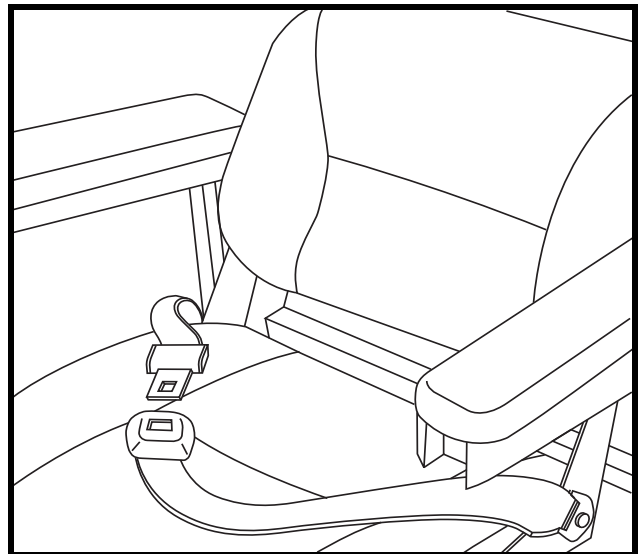

Figure 20. Positioning Belt
1. Insert the metal tab on the right side of the belt into the plastic housing on the opposite strap until you hear a “click.” See figure 20.